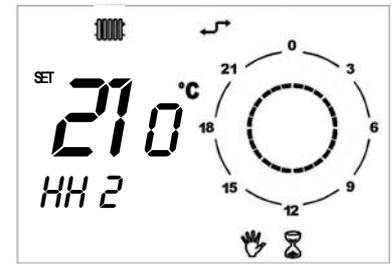

Figure 10 – Timed manual mode
- **TIMED MANUAL (PARTY)** operation: noted by the presence of both the hourglass and manual icons (see Figure 10).
5. During the entire period, the time remaining for the timed function will be displayed (see Figure 10 on page 20).